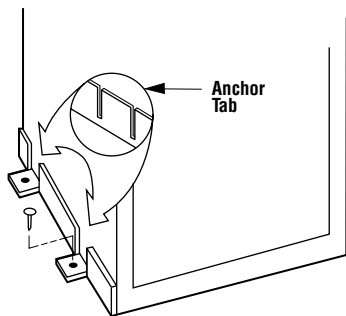

Figure 10
**Step 4.** Fireplace may be anchored to floor. Bend down four (4) anchor tabs located at the base of the fireplace and secure to the floor by nailing with 8d nails (Figure 10).